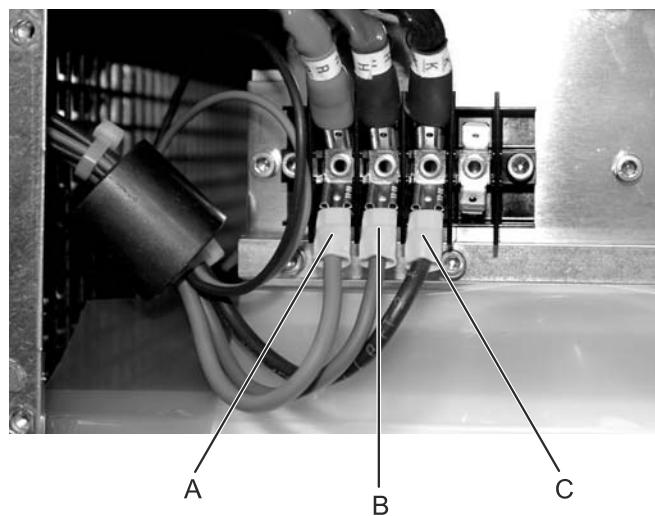

Figure 55: Disconnecting the thyratron supply unit
6. Disconnect the power cable (B) from the thyratron supply unit.
7. Disconnect the grounding cable (C) from the thyratron supply unit.
8. Disconnect the thyratron supply unit from the thyratron terminal strip (see Figure 55, A, B and C).
15. Connect the thyratron supply unit to the thyratron terminal strip (see Figure 55).